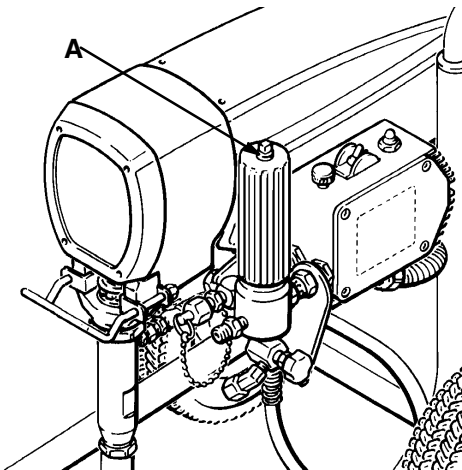

Fig 30–1
2. Refer to the above list of tools and equipment needed. Remove the plug (A) from the top of the fluid filter and install the fluid-filled pressure gauge. Refer to Fig 30–1. Connect the gun to the **new** test hose and connect the hose to the sprayer outlet.